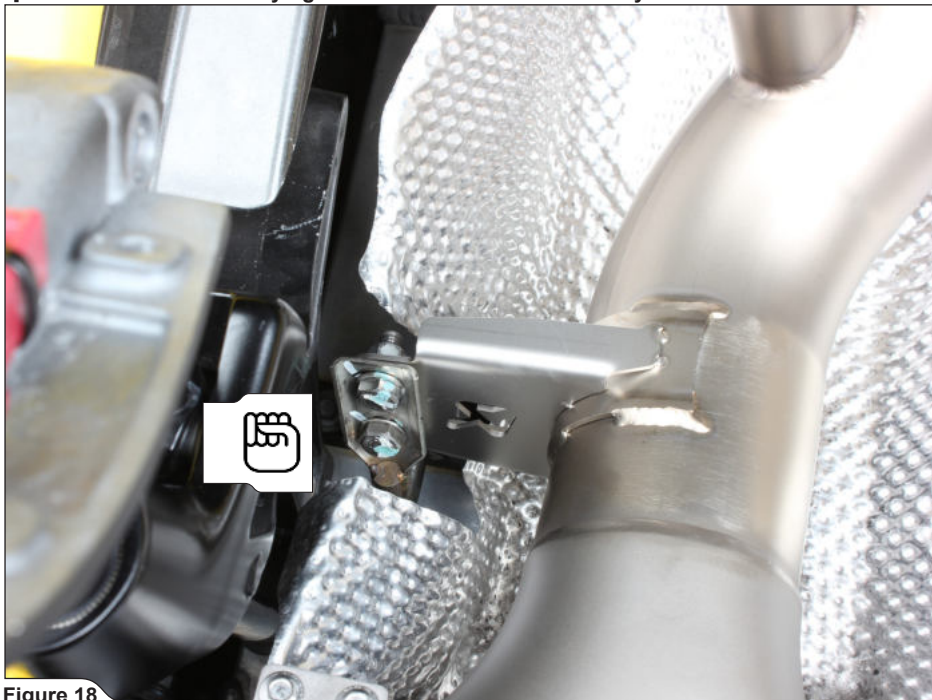

Figure 18
8. Hand tighten both rear muffler brackets onto the muffler, using stock bolts, nuts and washers (Figure 18).